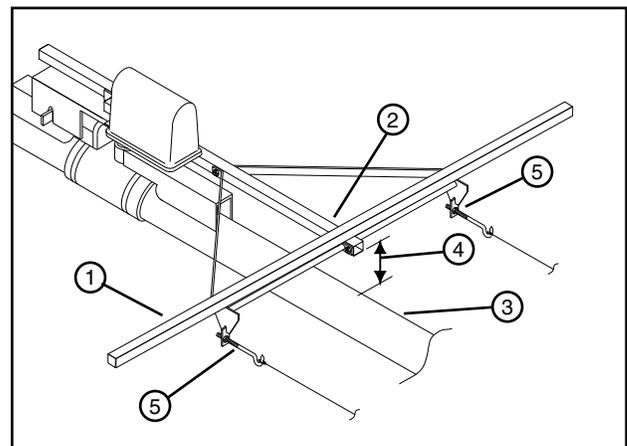

Figure 101-3 1. Weight 4. Weighted Measurement
6. Place a 13 lb (5.9 kg) weight on the alignment tube. Center the weight over the cable attachment assembly. See Figure 101-3.
7. Measure the distance from the end of the alignment tube to the span. This is the weighted measurement. See Figure 101-3.
8. Adjust the hook bolts evenly to obtain the proper cable deflection. See Figure 101-3.